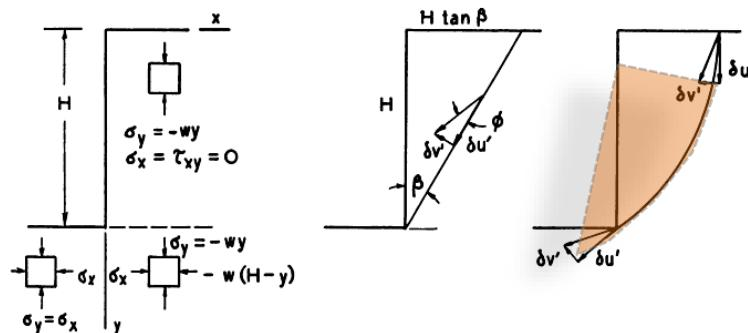

FIG. 4. (a) An equilibrium solution, (b) Plane, (c) Log. spiral compatible solutions.
8. Example: Critical height of vertical bank. The computation of the critical height H_c of a vertical bank, Fig. 4, will serve as an illustration of the procedure consistent with plasticity theory. No attempt will be made here to get an exact plasticity solution to this problem for even if it could be obtained it would not be helpful for more complicated slopes. Instead, the upper and lower bound techniques of limit design will be used.